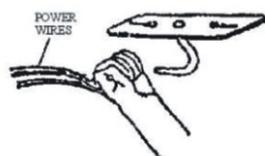

FIGURE 3
1. Being careful not to damage the cables, lift the fan and grab the rubber cylinder at an angle of about 30° above the hook, as shown in Figure 3.